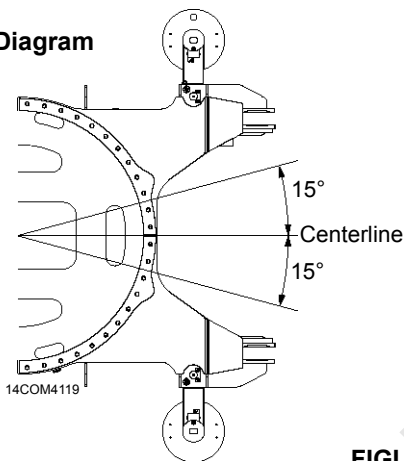

FIGURE 4-31
- Do not swing 15° either side of center (Figure 4-31)